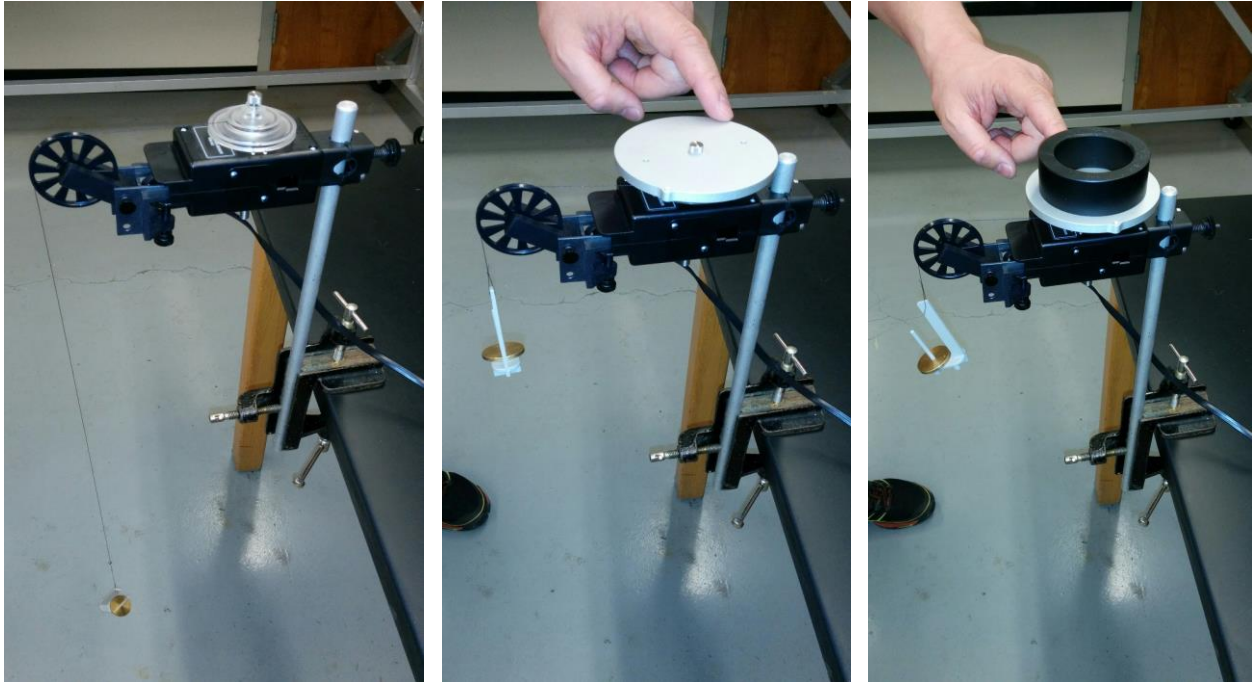

Figure 1 - The system setup with just the pulley (left), the plate (middle), and the plate plus hollow cylinder (right).
- 1)** Set up the rotary motion sensor near the top of the pole clamped to the table as shown in the left panel of Figure 1. Place the 3-wheel pulley on the axle above the sensor with a string tied around the middle wheel that extends most of the way to the floor when unwound. Screw the metal plate on the axle on top of the 3-wheel pulley (shown in the center panel of Figure 1) and make sure the system can rotate freely. The string should be draped *horizontally* over the pulley on the side of the sensor where the LabQuest cable is attached. Tie the hanger to the end of the string with a mass of 20 g on it. See your TA if you need any help with the setup.